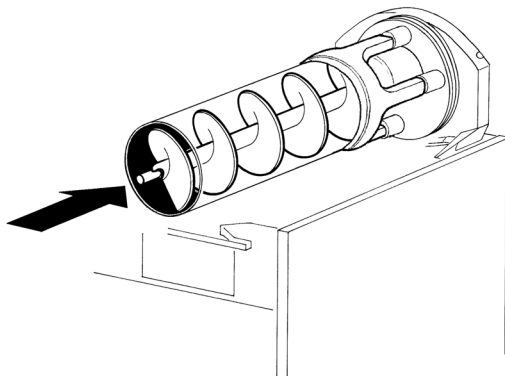

figure 15
- 5 - Carefully insert the auger into the evaporator use caution to prevent it from hitting the rear wall (see figure 15).